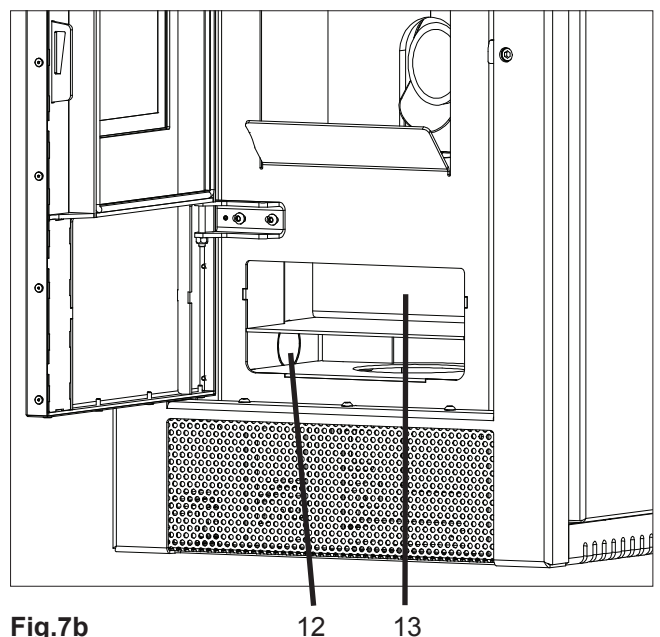

Fig.7b
- The ash box is behind the combustion chamber door. For cleaning, release the locking mechanism of the ash box and pull the ash box forward and out. Also clean the area below the ash box compartment (waste gas flues, see Fig.7b).